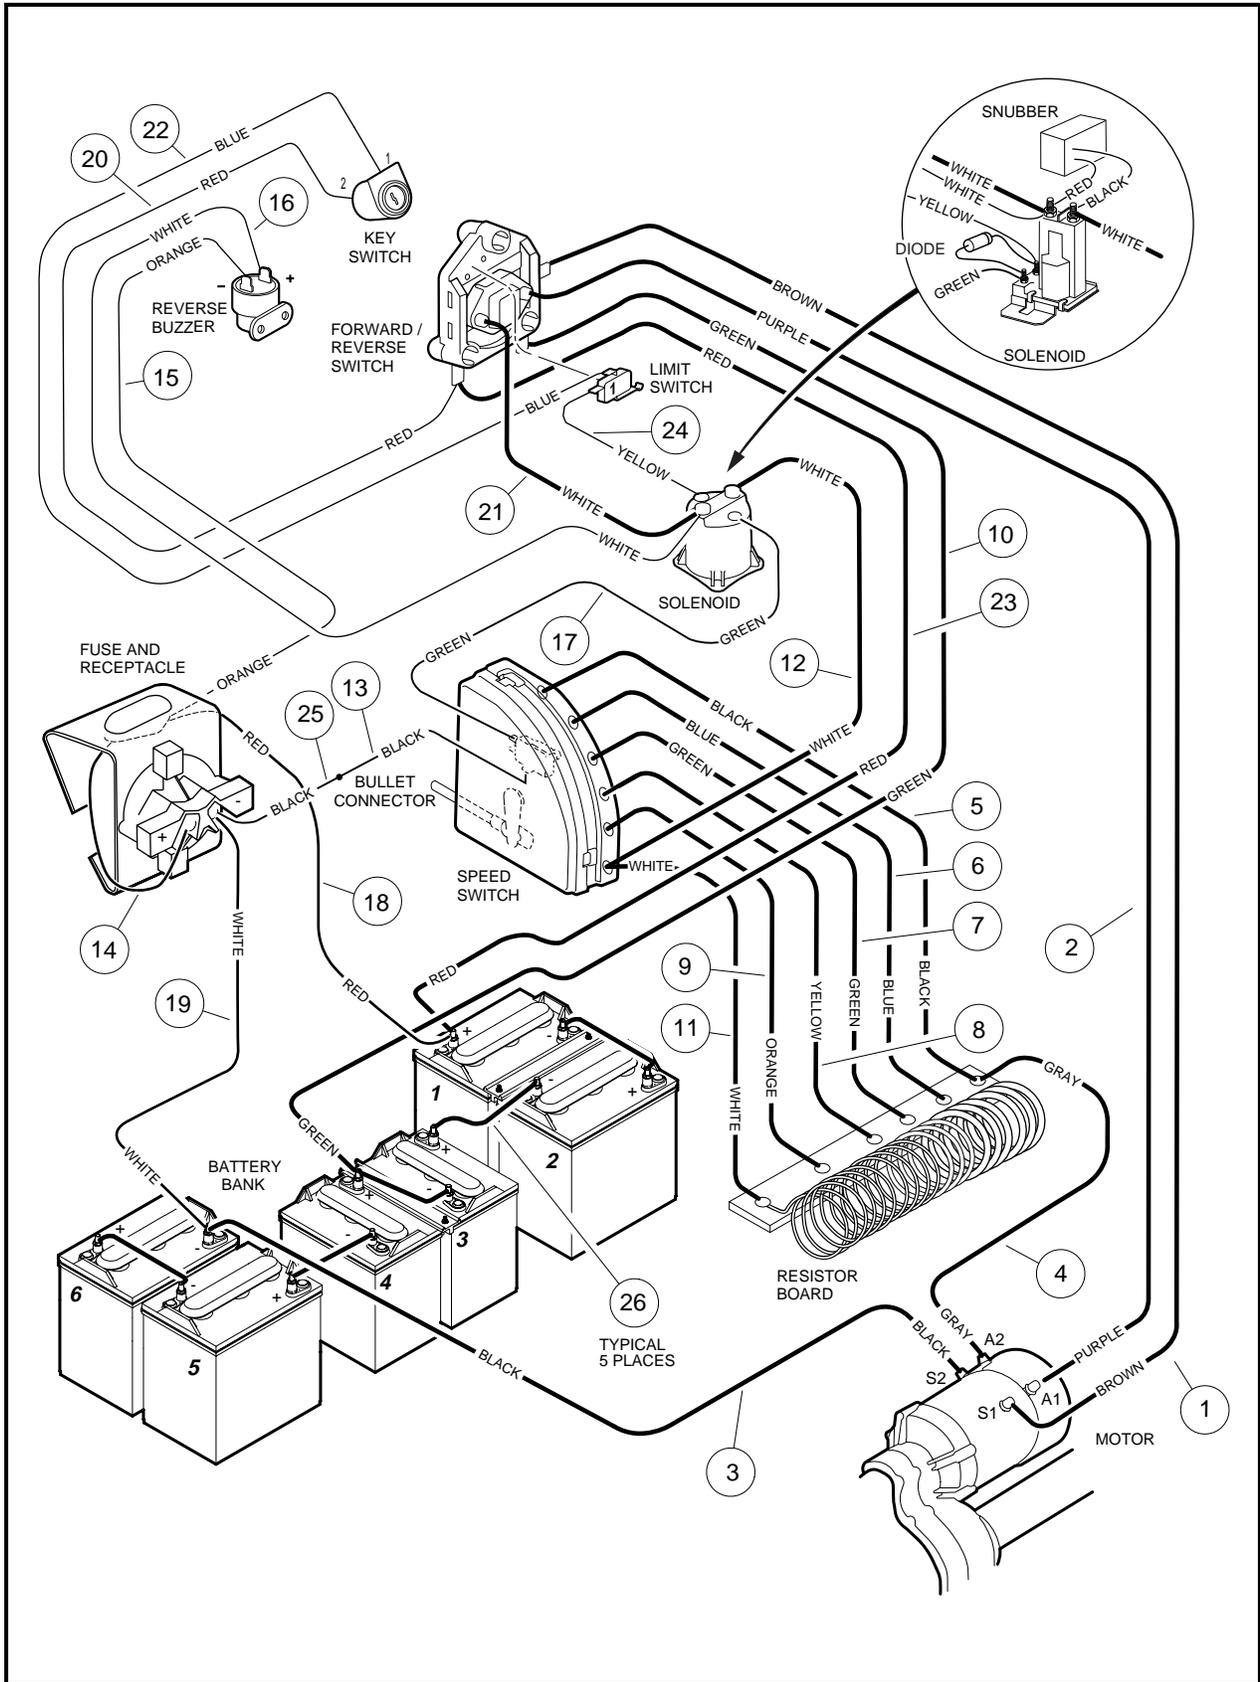

Figure 11-3 Vehicle Wiring Diagram
To properly service and maintain the V-Glide 36-volt vehicle, it is necessary to understand the electrical circuitry and the functions of all the electrical components (**Figure 11-3, Page 11-4**). On the V-Glide 36-volt vehicle, there are three separate circuits: 1) the control circuit, 2) the power circuit, and 3) the charge circuit. A reverse buzzer is also included on every vehicle.
3) Improperly wired	Figure 11-3, Page 11-4
2) Improperly wired.	Figure 11-3, Page 11-4